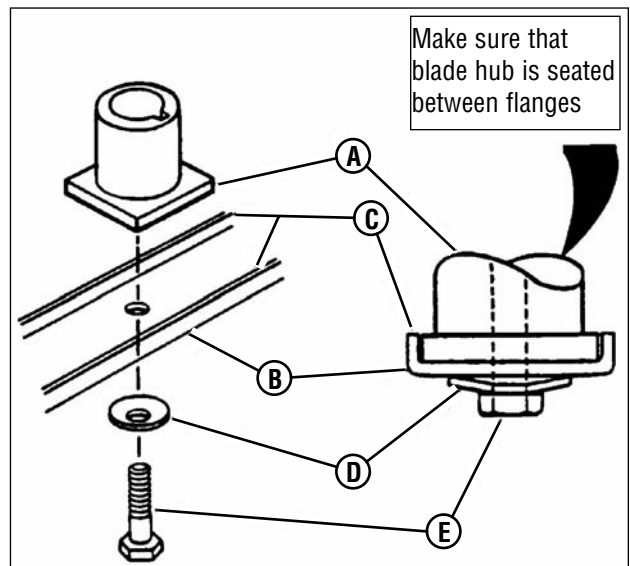

Figure 22: Removing the mower blade
3. Remove the blade (**B, Figure 22**).
- Reinstall blade (B, Figure 22). Note the correct assembly order: